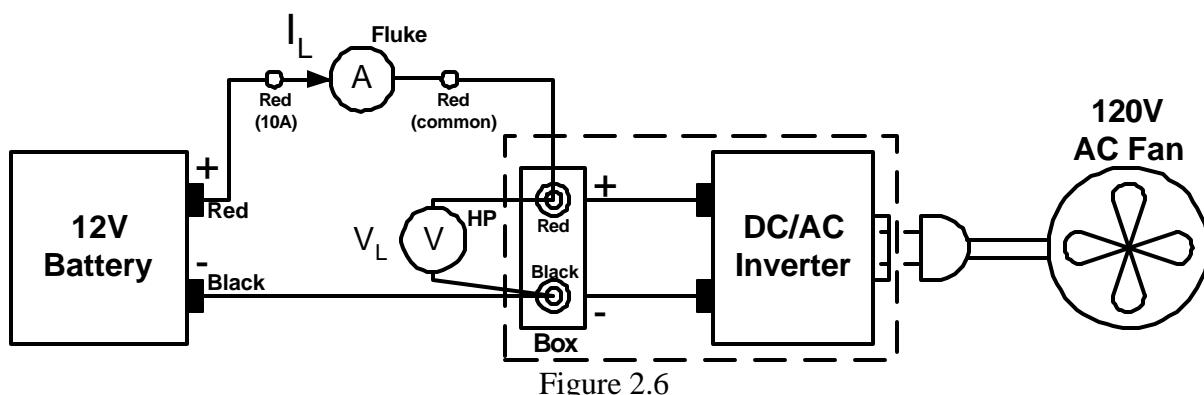

Figure 2.6
- B. Construct the circuit shown in Figure 2.6 with the details given below the figure.
- B. Connect the Xantrex power source on the bench to the circuit in place of the battery as shown in Figure 2.6. Use banana to banana connectors to connect the red of the power supply to the red of the inverter. Connect the black of the power supply to the black of the inverter. **HAVE YOUR TA CHECK YOUR CIRCUIT**